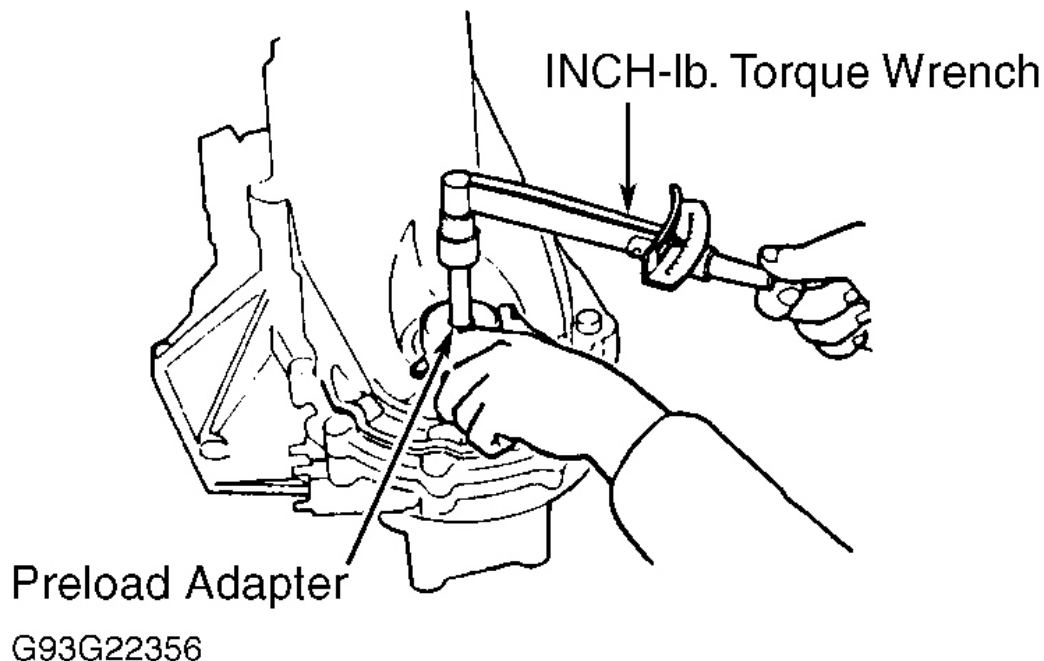

Fig. 27: Checking Differential Bearing Preload
6. Install Preload Adapter (07HAJ-PK40201) into differential assembly. See **Fig. 27** . Install INCH-lb. torque wrench on preload adapter. Measure differential assembly bearing preload by checking starting torque required to rotate differential assembly in both directions.